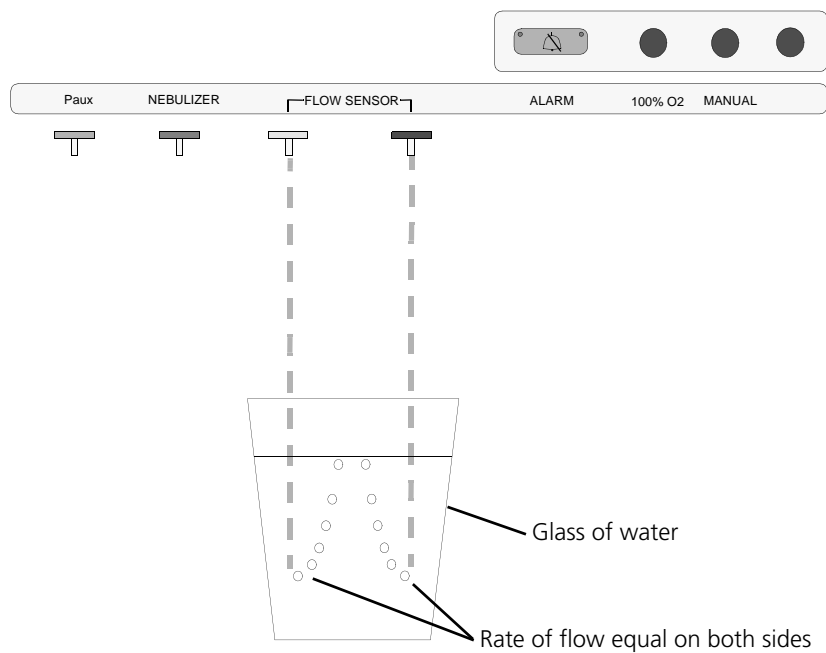

Figure 10-30. Checking the rinse flow rates
3. Place the ends of the tubes in a glass of water, as shown in Figure 10-30.